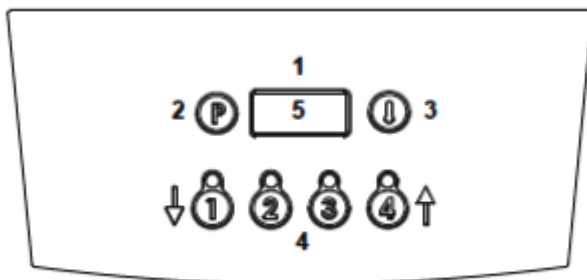

Figure 4 – E401/E402F Control panel
2.3.3 E402/E402F Fryer Control Panel (See Figure 4)